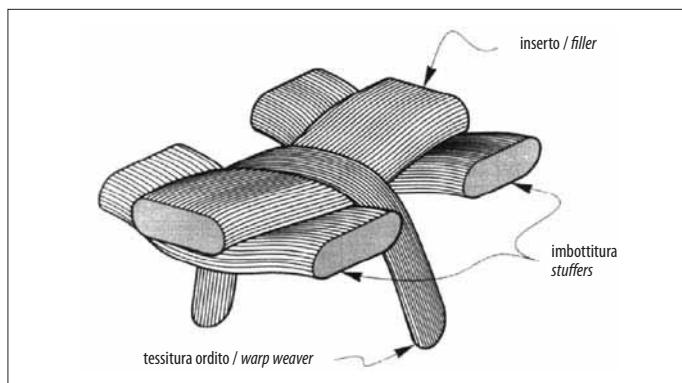

Fig. 8 - Schema generale della struttura della fibra in una tessitura a catena 3D(43)
questo tema, ancora oggetto di dettagliate analisi. La maggior parte delle prime applicazioni richiedevano l'impiego di matrici ceramiche o di carbonio ad alte temperature, un requisito progettuale non primario per ottenere alte frazioni di volume di fibra, per tenere i filati in piano quanto più possibile diritti e allineati e per incrementare al massimo la rigidità e la tenacità in piano dei compositi risultanti. A causa di queste circostanze, si accettavano solitamente prodotti con strutture a catena 3D molto ondulate e irregolari (come si vede nelle numerose immagini di(16,43-45) e in altri lavori. Ad esempio, il modello geometrico del prodotto tessile presentato in fig. 8 è stato introdotto per la prima volta nel 1994(43) ed è tuttora utilizzato da molti autori come schema indicativo della "struttura del tessuto 3D".
As pointed out above, 3D interlock weaves are manufactured on essentially 2D weaving devices and machines; they have been introduced as preforms for composite in 1970s(41,42), produced in relatively small volumes and intensively studied in 1990s, see(1,4,6,12,14,16,21,43-45) among numerous publications on this subject; their studies continue now. Most of the earlier applications required using high temperature carbon and ceramic matrices, and it was not the primary design requirement to achieve high fiber volume fractions, keep in-plane yarns as straight and aligned as possible and maximize in-plane stiffness and strength of the resultant composites. Due to these circumstances, highly crimped, wavy and irregular 3D interlock weave fabric architectures (as illustrated by numerous images in16,43-45 and many other works) were usually accepted. As an example, the fabric geometry model shown in Figure 8 has been first introduced in 1994(43) and is still used by many authors as a representative schematic of "3D woven fabric architecture". In spite of continuing significant efforts to adequately model those wavy, irregular fiber architectures of 3D interlock weaves and their composites and predict their mechanical properties, it looks hardly possible without involving probabilistic and stochastic methods, like the ones developed and used in46-48. High variability and randomness of 3D interlock woven fabric architectures had reflected on their composite properties, as was well summarized in16. Specific past composite applications of this type unitary textile reinforcement and their future perspectives have been discussed in detail in(14,16). As summarized in(14), "Despite the advantages and potential benefits of 3D woven composites, these materials have failed to find many commercial applications. They have been used or tested in only a few specialized structures by the building, aircraft and marine industries, where the cost and/or performance of traditional laminates and metals have been unacceptable." Note that this assessment was made for the general category of "3D woven composites", which was probably true in 1999. Another development that suffers from the crimp and fiber damage problems is the so-called "first ever 3D-weaving process" introduced in(49); it features dual-directional shedding operations referred to as "linear-linear" and "linear-angular". The shedding operation alternately displaces the grid-like arranged warp yarns Z (disposed in